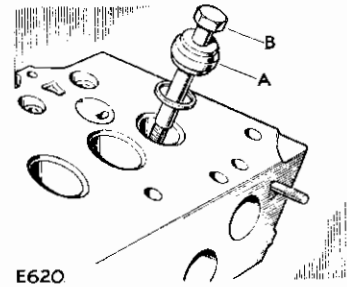

Fig. A-422—Valve seat replacement tool
8. Clean the seat recess and pull the new insert into position, using the special tool illustrated in Fig. A-422. It is not necessary to heat the cylinder head or freeze the insert, but light taps on the tool may be required to ensure that the insert enters smoothly. Drift in the new guides, as detailed in "Valve guides, to renew".